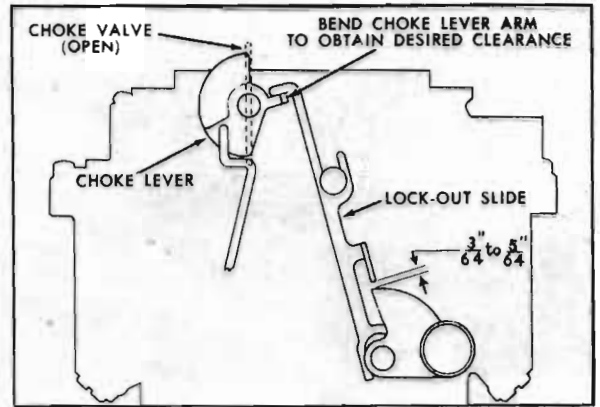

Figure 3-99—Lock-Out Slide Clearance with Choke Valve Open
2. Fully open choke valve and partially open auxiliary throttle valves. The clearance between lower end of ear on slide and top edge of auxiliary valve shaft lever should then be $\frac{3}{64}''$ ($.047''$) to $\frac{5}{64}''$ ($.078''$). Bend choke lever arm to obtain this clearance. See figure 3-99.